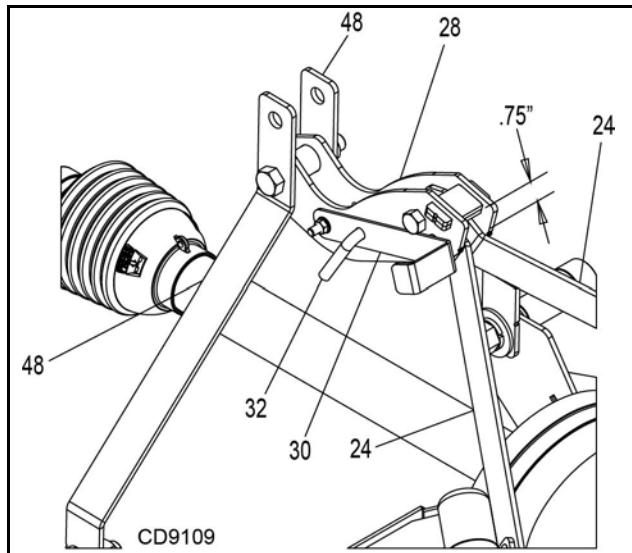

Figure 6. Driveline Holder Storage Position
7. Lengthen the tractor top link until mower break link cross piece is 3/4" above the rear offset links. See Figure 6. The front tires of the mower will lift off the ground before the rear tires when the unit is raised. This will allow the mower to follow the ground contour when mowing.
3. Install quick hitch sleeves (item 53) over mower cantilever hitch pins and retain with klik pins.
4. If the mower driveline is already installed on the mower, it should be placed on the driveline holder. The bent pin (item 32) should be removed from the holder, releasing it to swing down and support the drive.
5. The mower a-frame links (item 48) should be locked in a vertical orientation. Push the a-frame links rearward until the small holes in the top of the rear offset links (item 24) align to the cross-hole in the break link (item 28). Install the driveline holder bent pin (item 32) though these holes to hold this position and retain with hairpin cotter.
11. Remove the bent pin (item 32) and cotter from the break link (item 28). Swing driveline holder up into storage position. Install bent pin through holder and break link. Retain with hairpin cotter.
12. Adjust tractor top link until mower break link cross piece is 3/4" above the rear offset links. See Figure 6. The front tires of the mower will lift off the ground before the rear tires when the unit is raised. This will allow the mower to follow the ground contour when mowing.
When the cutting height is set, adjust tractor top link until mower break link cross piece is 3/4" above the rear offset links (see Figure 6 & Figure 13). The front tires of the mower will lift off the ground before the rear tires when the unit is raised. This will allow the mower to follow the ground contour when mowing.